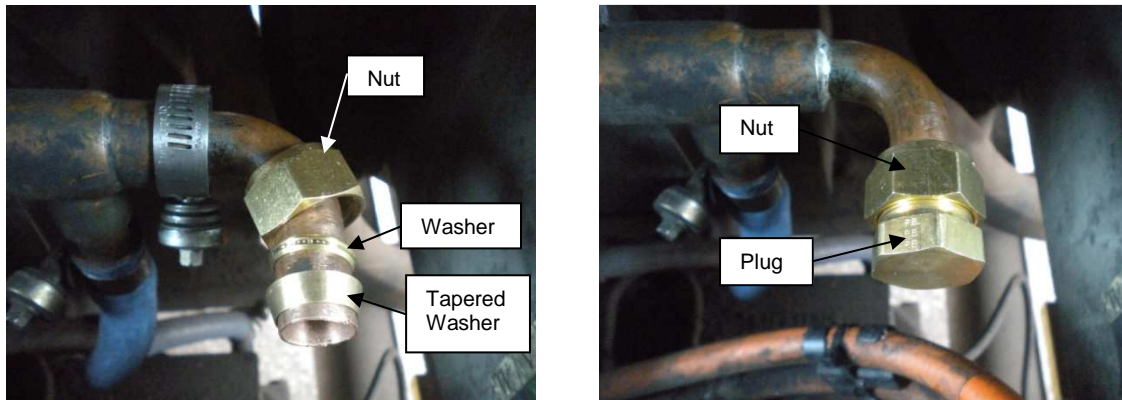

Figure 4: Bypass Tube Plug Installation.
- c. Install the nut, washer and tapered washer from the cap NF P/N 6431573 over the tube. Fig 4, Picture #1.
- d. Push the plug into the end of the tube and install the nut on the plug finger tight then turn an additional $\frac{1}{4}$ turn. Fig 4, Picture #2.